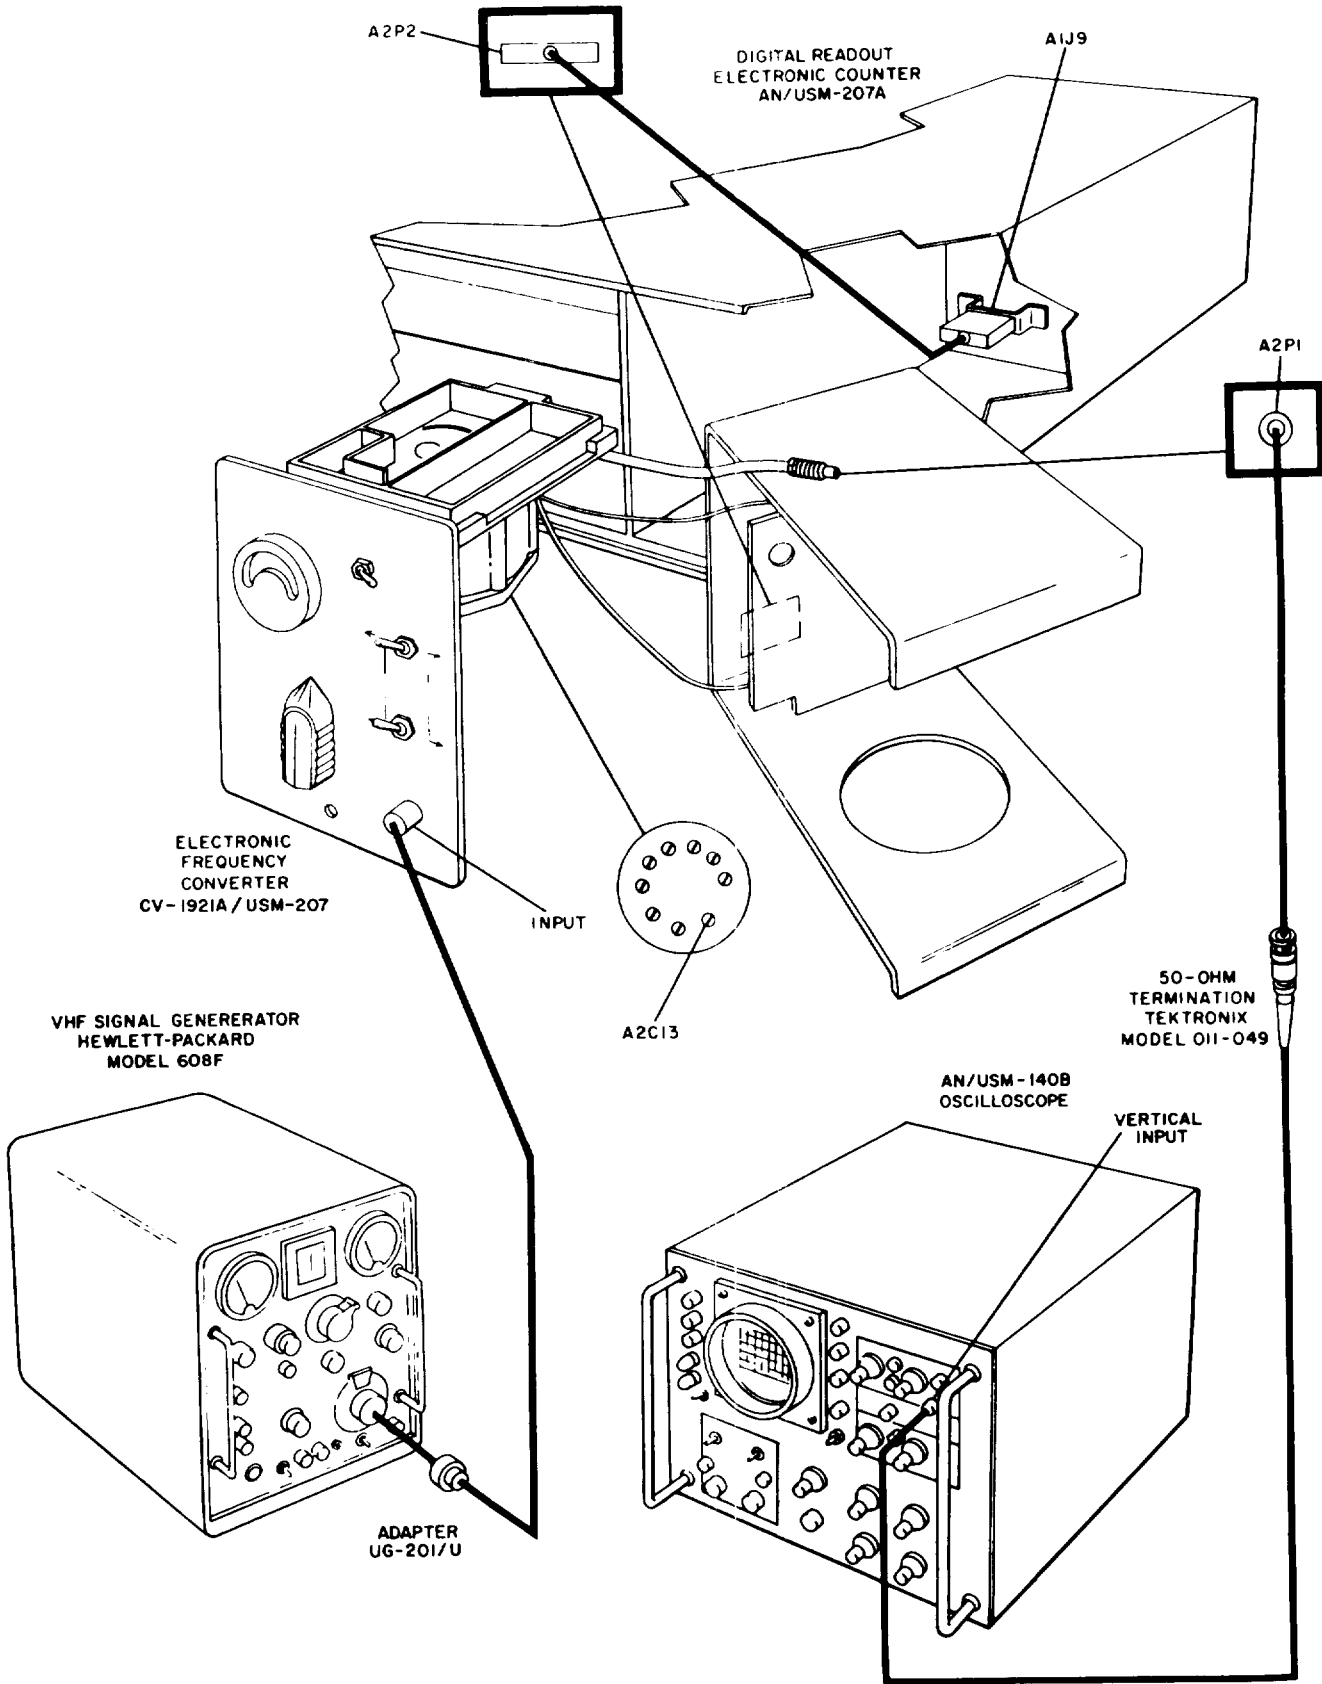

Figure 5-23. Selecting Capacitor A2C14, Test Setup
- (1) If a defective A2C14 is being replaced, proceed to step (2). If capacitor A2C15 was replaced proceed to step (5).
- (2) Disassemble the cavity casting as described in paragraph 5-5t.
- (3) Choose a capacitor with a 33-pf value, and connect it temporarily to the terminals normally occupied by A2C14.
- (4) Replace the cavity cover on the cavity casting and secure it temporarily with three screws.
(5) Connect test setup as shown in figure 5-23.
- (6) Follow the procedure of steps (aq) through (au) of paragraph 5-4k(5) and adjust capacitor A2C13 for a peak 10 mc waveform. If the waveform peaks within the adjustment range of A2C13 proceed to step (7). If the waveform peaks at either end of the adjustment range of A2C13, leave the adjustment set at that end and proceed to step (8).
(7) If steps (2) through (4) were performed, disassemble the cavity casting, connect the 33-pf capacitor permanently, reassemble the cavity casting, and retouch A2C 13 for a peak 10-mc waveform. If steps (2) through (4) were not performed, the existing A2C14 is of a correct value and need not be replaced.